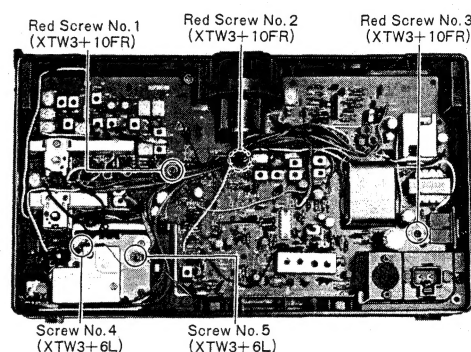

Fig. 14
8. Remove the three (3) red screws (nos. 1~3) for the PC board, as shown in fig. 14.
9. Remove the two (2) screws (nos. 4 & 5) for the lead wires, as shown in fig. 14.